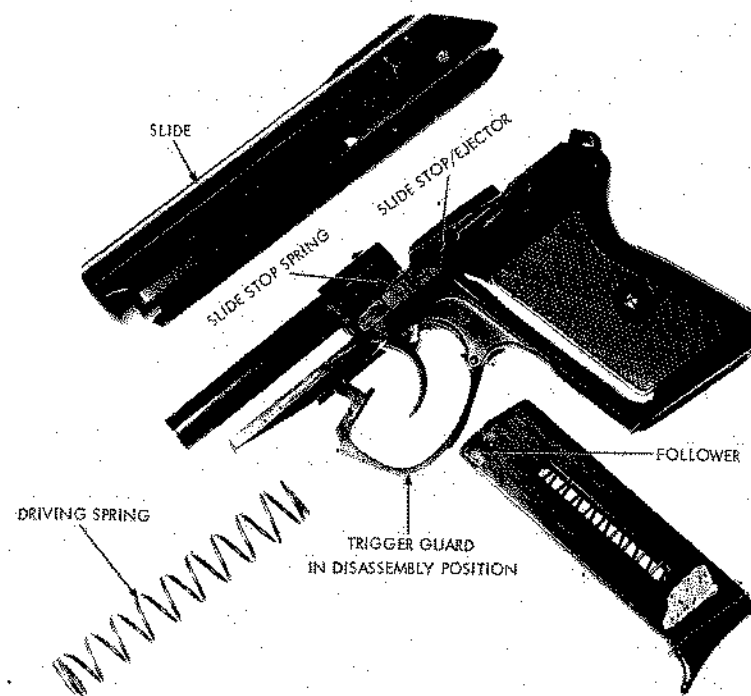
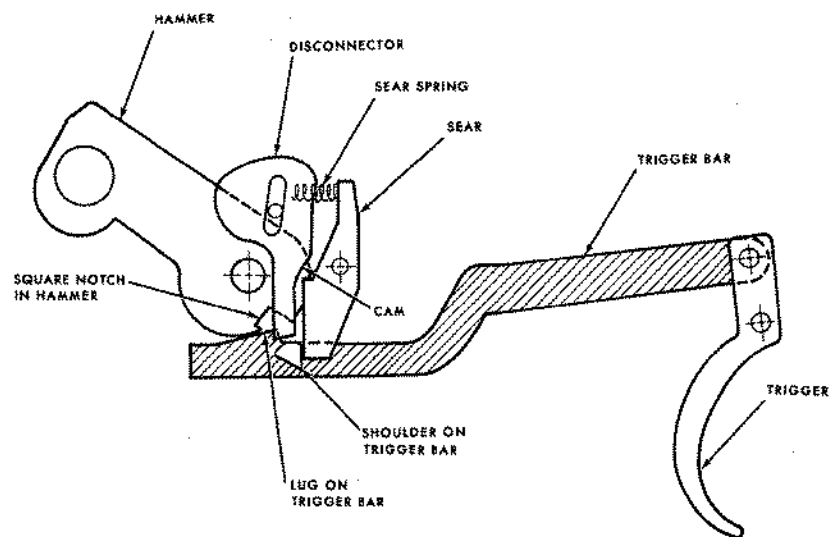

Figure 16. P-64 pistol disassembled.
Figure 17. P-64 trigger mechanism.
(1) Clear the weapon (para 21f), but do not insert the magazine.
(2) Pull the front of the trigger guard down, and when it is clear of the receiver, press it to one side and rest it against the receiver (fig 16). Grasp the slide by its milled grooves, pull it fully rearward, and lift its rear end up and out of engagement with the receiver. Ease the slide forward over the barrel until it is free. Pull the driving spring off the barrel.
(3) No further disassembly is necessary or desirable.
(1) Insure that the hammer is cocked, that the safety is in the safe position, and that the trigger guard is in the disassembly position ((1) above). Slide the driving spring over the barrel.
(2) Insert the end of the driving spring into the circular front section of the slide; then insert the barrel into the front hole in the slide. Pull the slide rearward, pressing it downward at the same time, until it slips down into engagement with the receiver. Release the slide so that its spring will drive it forward.
(3) Disengage the trigger guard from the receiver and return the trigger guard to its normal position. Insert the magazine.
b. If the hammer is in its forward position, finger pressure on the trigger moves the trigger bar forward. A lug on the rear top of the trigger bar mates with a square notch in the bottom of the hammer (fig 17), and, as the trigger bar moves, it causes the top of the hammer to rotate back. When the trigger bar is almost at the limit of its forward travel, the rotary motion of the hammer has moved its notch up and out of contact with the trigger bar lug; when this occurs, the firing spring swings the hammer to fire the cartridge.
c. When the hammer is cocked, the sear nose, under pressure of the sear spring, snaps into the sear notch on the hammer and holds the hammer cocked (fig 17). When the trigger is pressed and the trigger bar moves forward, a shoulder inside the trigger bar contacts the sear and swings the bottom of the sear forward and out of engagement with the hammer. The hammer, under the force of the hammer spring, swings forward to fire the cartridge.
d. When the cartridge fires, it forces the slide rearward. The empty cartridge case is held to the slide by the extractor until the ejector (fig 16) contacts the case and expels it from the weapon. The slide also forces the disconnecter down, and the disconnecter, in turn, forces the trigger bar down. The shoulder on the trigger bar (fig 17) releases the sear, which, under pressure of its spring, swings back where it can engage and hold the hammer cocked. When the slide completes its recoil movement, the driving spring forces the slide forward to load a fresh cartridge from the magazine into the barrel. When the trigger is released, the trigger bar moves rearward until the shoulder clears the sear, at which time the trigger bar swings up and the pistol is ready to fire another shot.
e. When the safety is set to safe, a pair of lugs swing into position beside the rear end of the firing pin. These lugs protrude past the end of the pin to prevent the hammer from striking the pin. As the safety continues to turn, a cam on its body forces the disconnecter (fig 17) downward; the disconnecter strikes the sear and cams the sear out of engagement with the hammer, which falls. The disconnecter also depresses the trigger bar so its notch cannot mate with the hammer. The hammer strikes the lugs on the safety, but because these protect the firing pin, the pistol will not fire, and, while the disconnecter holds the trigger bar depressed, pressure on the trigger will not move the hammer or sear; the
f. The ejector/slide stop is forced upward by the magazine follower when the last cartridge is fed from the magazine. When the slide recoils after firing the last cartridge, the slide stop moves up and holds the slide open. When the empty magazine is removed, a rearward trigger on the slide, by relieving pressure on the slide stop, will allow the slide stop spring (fig 16) to force the slide stop down where it cannot engage the slide.